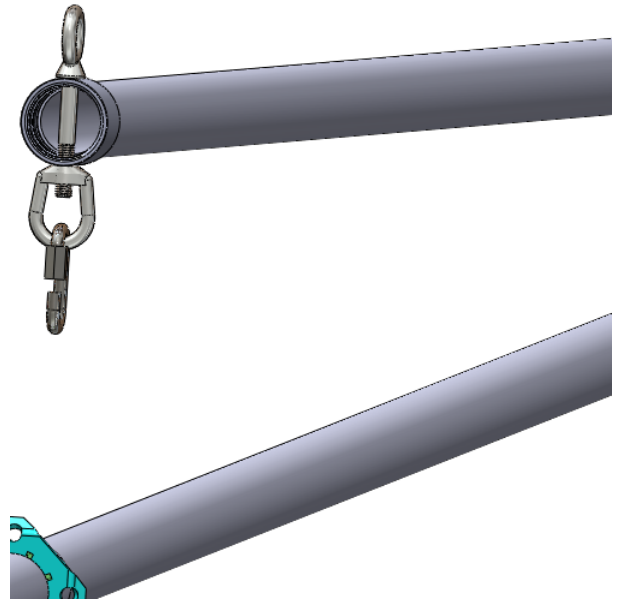

Figure 5.6 – Gin pole rigging detail
- Position the gin pole directly over the lowest section of the tower with the eye of the bolt facing up, and the eye nut facing down toward the tower pipe below, as shown in Figure 5.6. Support the upper end of the gin pole with blocks about a foot above the tower pipe.
To rig the gin pole, follow these steps, referring to Figure 5.6.